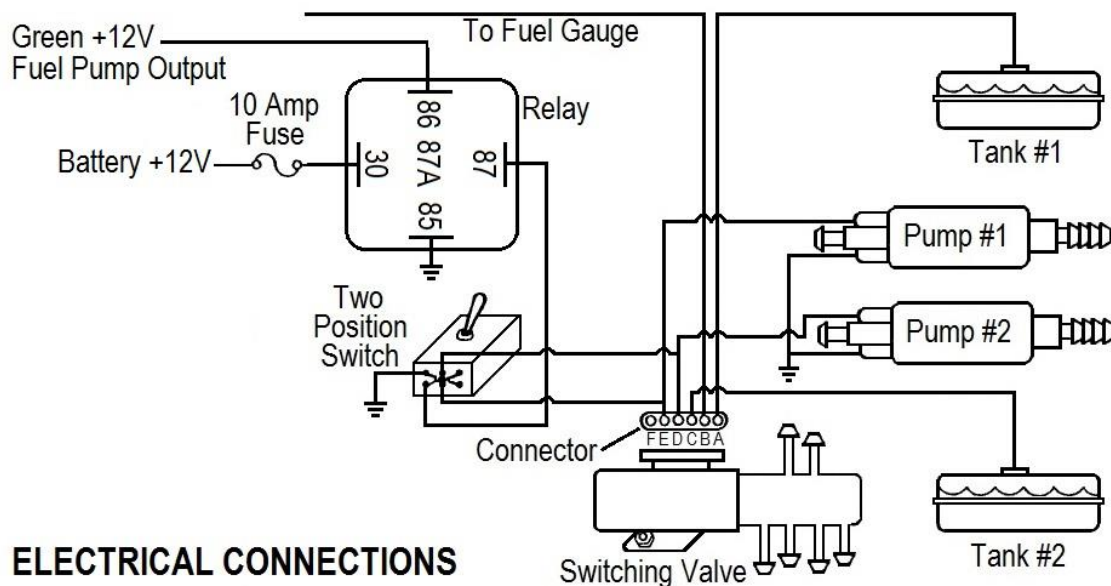

Figure 2
1. Mount the two position (both on) type of toggle switch along with the relay under the dash if the vehicle is not already equipped with these. Connect the electrical wiring as shown in **Figure 2**.
2. Cross-wire the toggle switch as illustrated with one pair of terminals wired to ground and the other pair to a 12V source through the relay and a 10 AMP fuse. The terminals on the plug-in connector are labeled A – F (F E D C B A) and should be wired to the following items. See **Figure 2**.